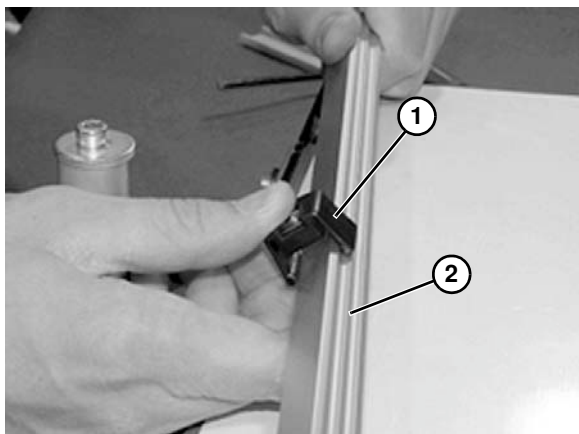

Figure 20
4. Snap clip (**Figure 20, item 1**) onto guide rail (**Figure 20, item 2**).